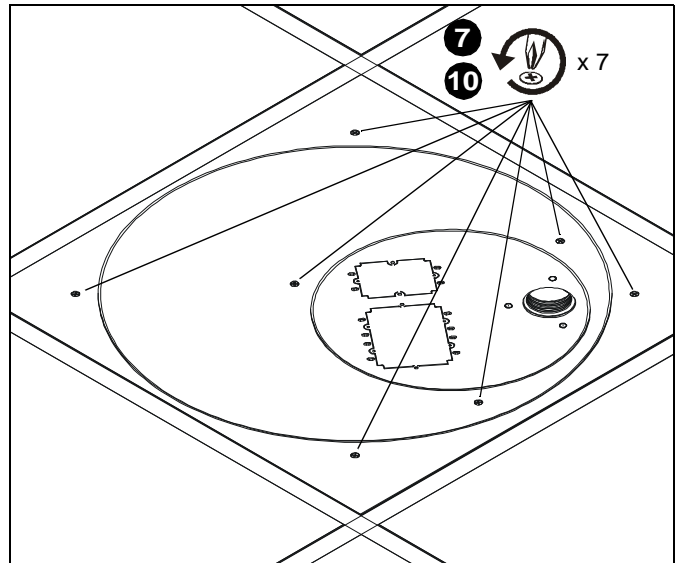

Figure 3
5. Press center tip of ceiling tile cutter (M) into *finished* side of ceiling tile at marked location. Cut extension column hole through tile using back and forth hand twisting motion.
7. Loosen seven clamp screws in lower (finished) side of CMS445 assembly (A). (See Figure 3)
2. Using hex key (L), secure extension column by *one* of the following methods (See Figure 3):
- Install screw (H) into extension column support, tightening firmly against column.
- **OPTIONAL:** Install security screw (J) through locking collar (K) into extension column support, tightening firmly against column.
**NOTE:** Locking collar (K) is designed to spin, even when screw (J) is tight.